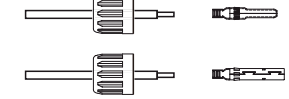

Figure 5.18 Insert the Wire into the Connector Cap nut and contact pin
2. Insert the wire into the connector cap nut and contact pin. (see Figure 5.18)